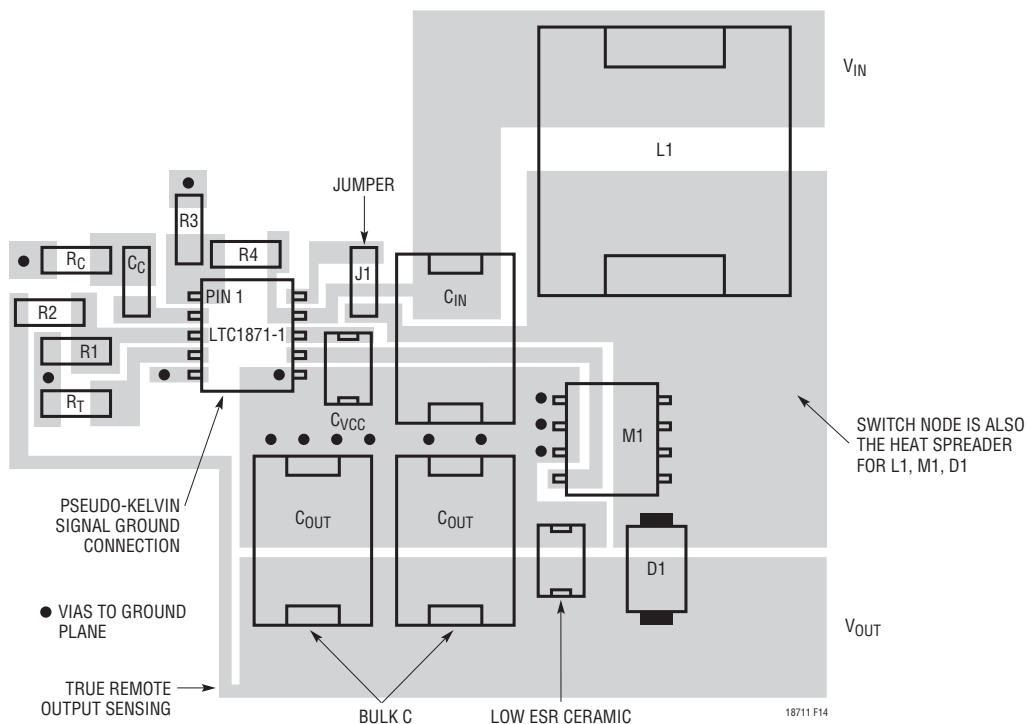

Figure 14. LTC1871-1 Boost Converter Suggested Layout
- Place the small-signal components away from high frequency switching nodes. In the layout shown in Figure 14, all of the small-signal components have been placed on one side of the IC and all of the power components have been placed on the other. This also allows the use of a pseudo-Kelvin connection for the signal ground, where high di/dt gate driver currents flow out of the IC ground pin in one direction (to the bottom plate of the $INTV_{CC}$ decoupling capacitor) and small-signal currents flow in the other direction.